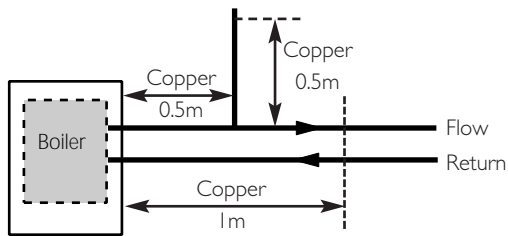

Fig. 9
4. In systems using non-metallic pipework it is necessary to use copper pipe for the boiler Flow and Return. The copper must extend at least 1 metre from the boiler and include any branches (Fig. 9).